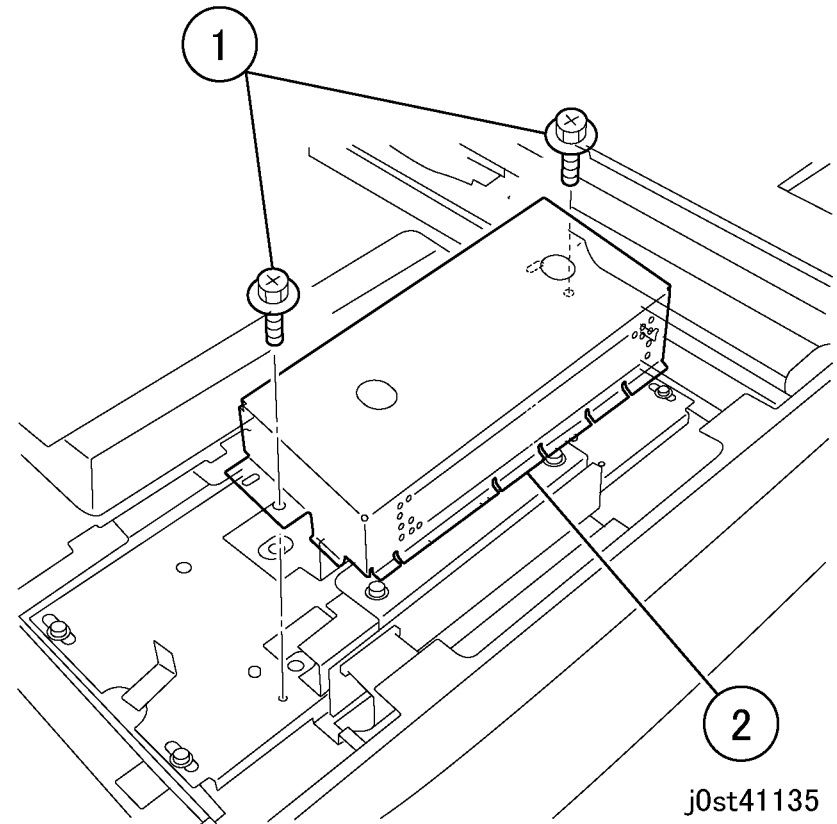

Figure 2 Removing the Lens Cover (j0st41135)
3. Remove the Lens Cover. (Figure 2)